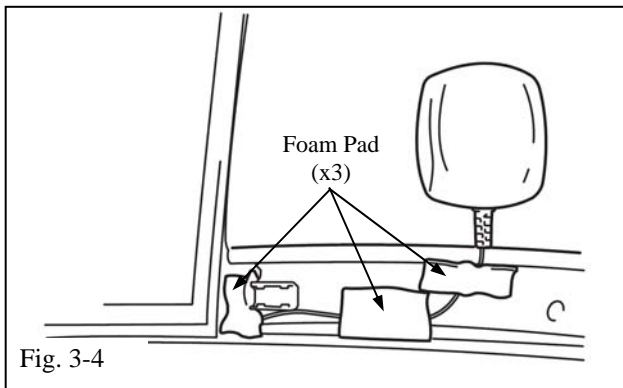

Fig. 3-4
- (1) Cut one (1) piece of foam pad into three (3) pieces and use to secure antenna cable. (Fig. 3-4)